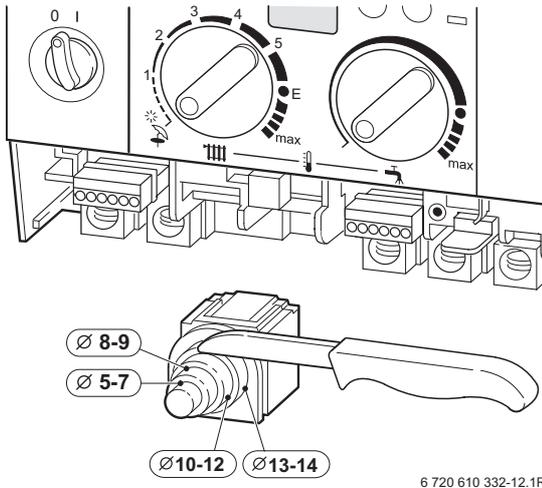

Fig. 26
- ▶ To make splash-water proof (IP): cut the cable grommet hole size to match diameter of cable, see fig. 26.